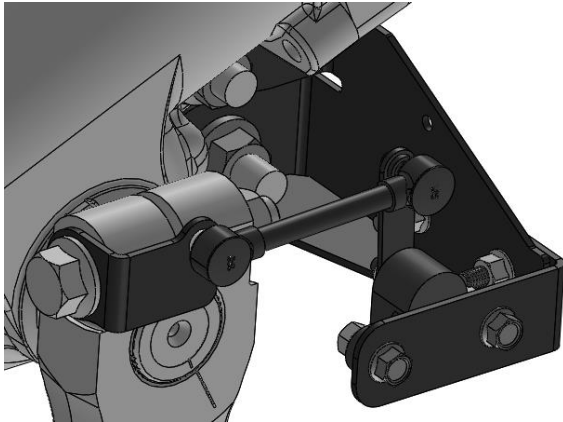

Figure 37. Installation of Steering Sensor and Linkage Arm.
6. Install the Steering Sensor as shown in Figure 37. Using the 5/16"-18 fasteners and **Torque to 14-17 ft-lbs.**